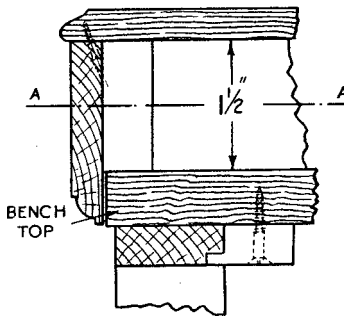

FIG. 10. HOW LID COVERS EDGE OF BENCH TOP
**Bench Top.** As allowance should be made for shrinkage, it is advisable to secure it to the top rails (I) by means of buttons (Figs. 10 and 12). Alternatively, the fixing can be effected by screws through the rails (I), which are slotted to receive the screws. If buttons are used, they should not project below the lower surface of the rails, otherwise they will interfere with the opening of the larger drawer. The hanging rail (J) for the lid must be securely fixed. It therefore projects below the level of the bench in order that a fixing can be obtained to the legs as well as the back edge of the bench top, and also to take the thrust when the lid is lifted.
**Lid.** The side and ends are mitred together and glue blocks inserted in the corners (Figs. 10 and 11). These blocks are of such length that when the lid is closed down, it rests upon them so that it hides the edge of the bench. It is as well slightly to bevel the back edges of the ends to assure that the weight of the lid is taken by the blocks and no thrust is exerted on the hanging rail. The top is secured by screws inserted obliquely through the side and ends.
**Assembly.** The upright (E) is fixed to the bottom front rail and stop housed